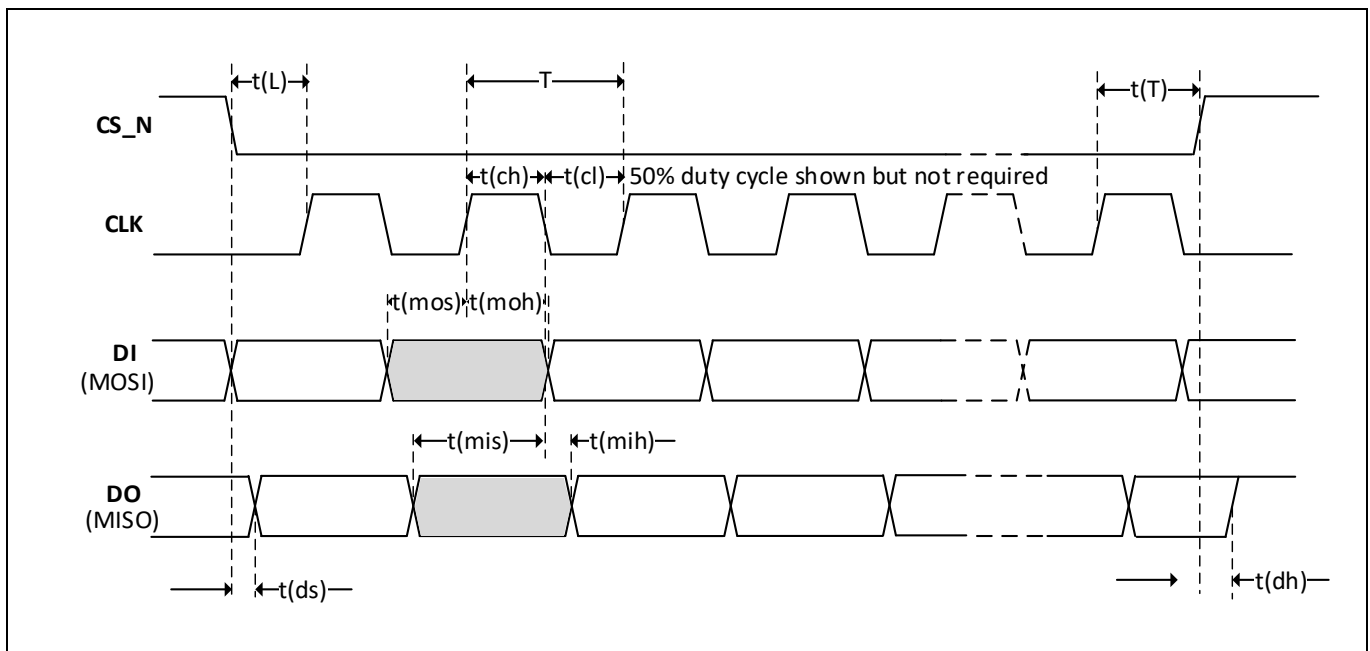

Figure 14 SPI interface timing diagram for SFCTL:MISO_HS_RD = 0_b
The timing diagram for normal SPI mode (SFCTL:MISO_HS_RD =0) is presented in Figure 14. A SPI transfer is started with a falling edge of chip select signal CS_N generated by the SPI master. At the same time the SPI master shall drive the level of the data input signal DI (master output, slave input) according to the first bit. Also with the falling edge of the chip select signal CS_N the SPI slave applies the level of the data output signal DO (master input, slave output) according to the first bit which shall be transferred to the SPI master, the level becomes stable after the period t(dS). The SPI master has to wait for the time t(L) before the clock signal CLK can be generated.